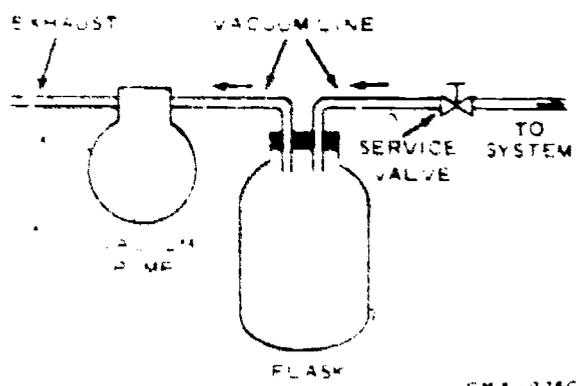

Figure 24. Removing Refrigerant or Solution
**REMOVING REFRIGERANT OR SOLUTION.** When it is necessary to remove a part or all of the system charge, you may use one of the two methods below. On some units the pump discharge pressure is above atmospheric. On these units just open a valve on the pump discharge and drain out the quantity desired. On units that all pressures are below atmospheric, remove the charge using the following procedure Refer to figure 24. (1) Connect vacuum hoses to service valve, flask, and vacuum pump. (2) Operate vacuum